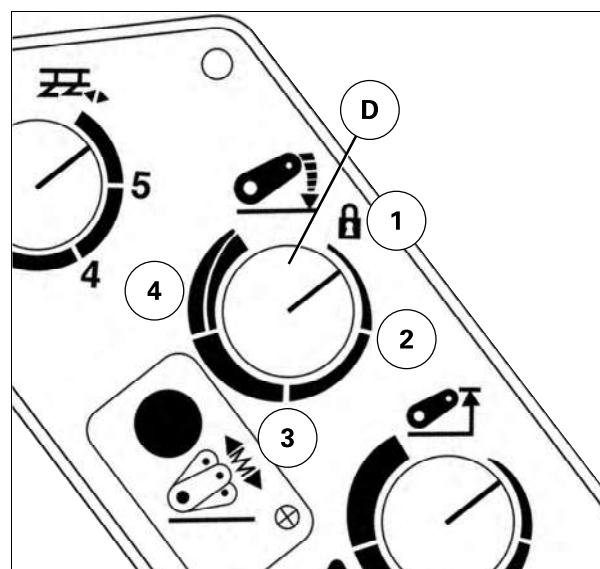

Fig. 4.
Adjust the lowering speed using knob (D) fig. 4
- (1) Lowering lock position
- (2) Lowering speed slow
- (3) Lowering speed fast
- (4) Automatic mode